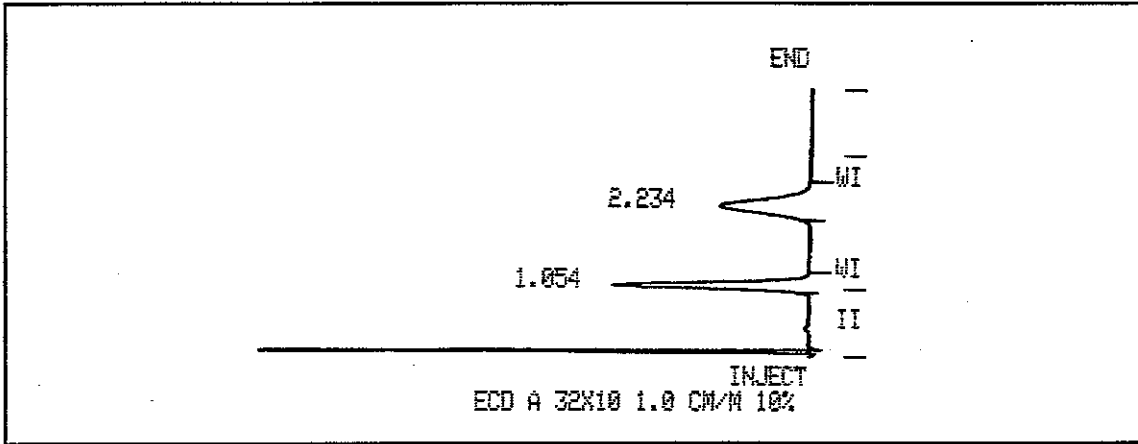

Figure 16a Packed Column (ECD)
4. Compare the test chromatogram for peak separation, peak heights, and retention times with the chromatogram in Figures 16a-16c.